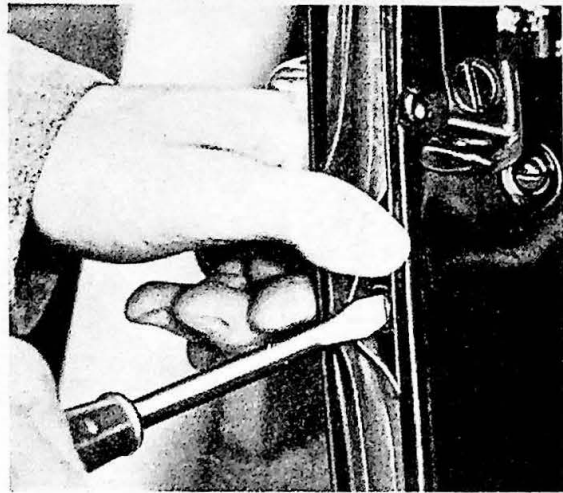

Fig. 19.
3. Remove the cotter pin on the outer door handle with the help of a small driver. This cotter pin is self-locking so the ends are not bent. See Fig. 19. Remove door handle.